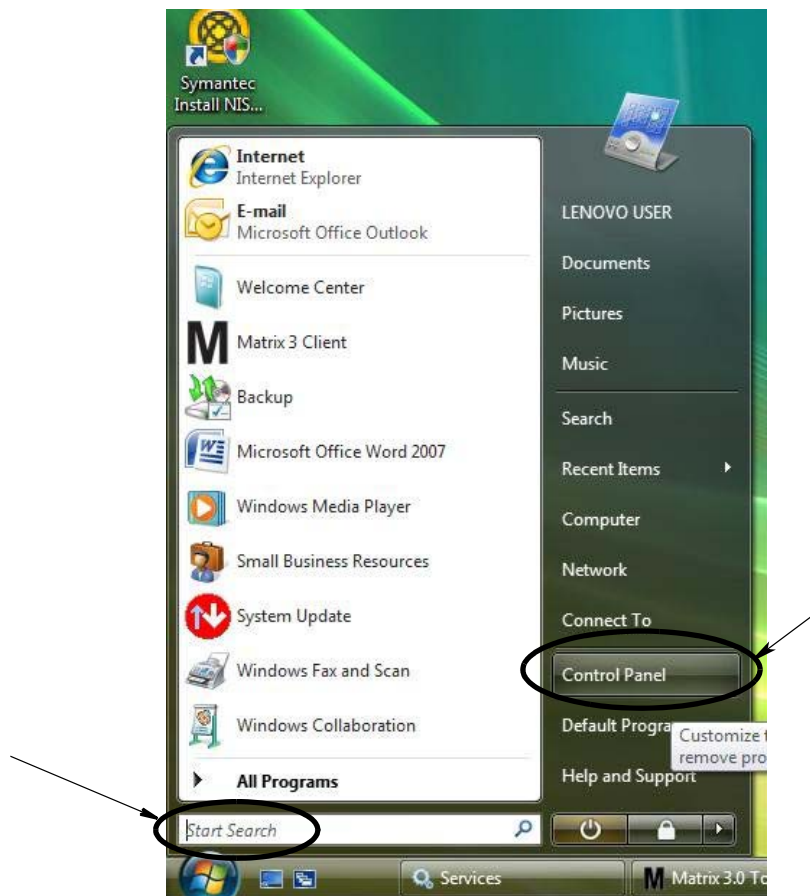

FIG. 49
1. On the Windows Vista desktop select Start Search / Control Panel (FIG. 49).